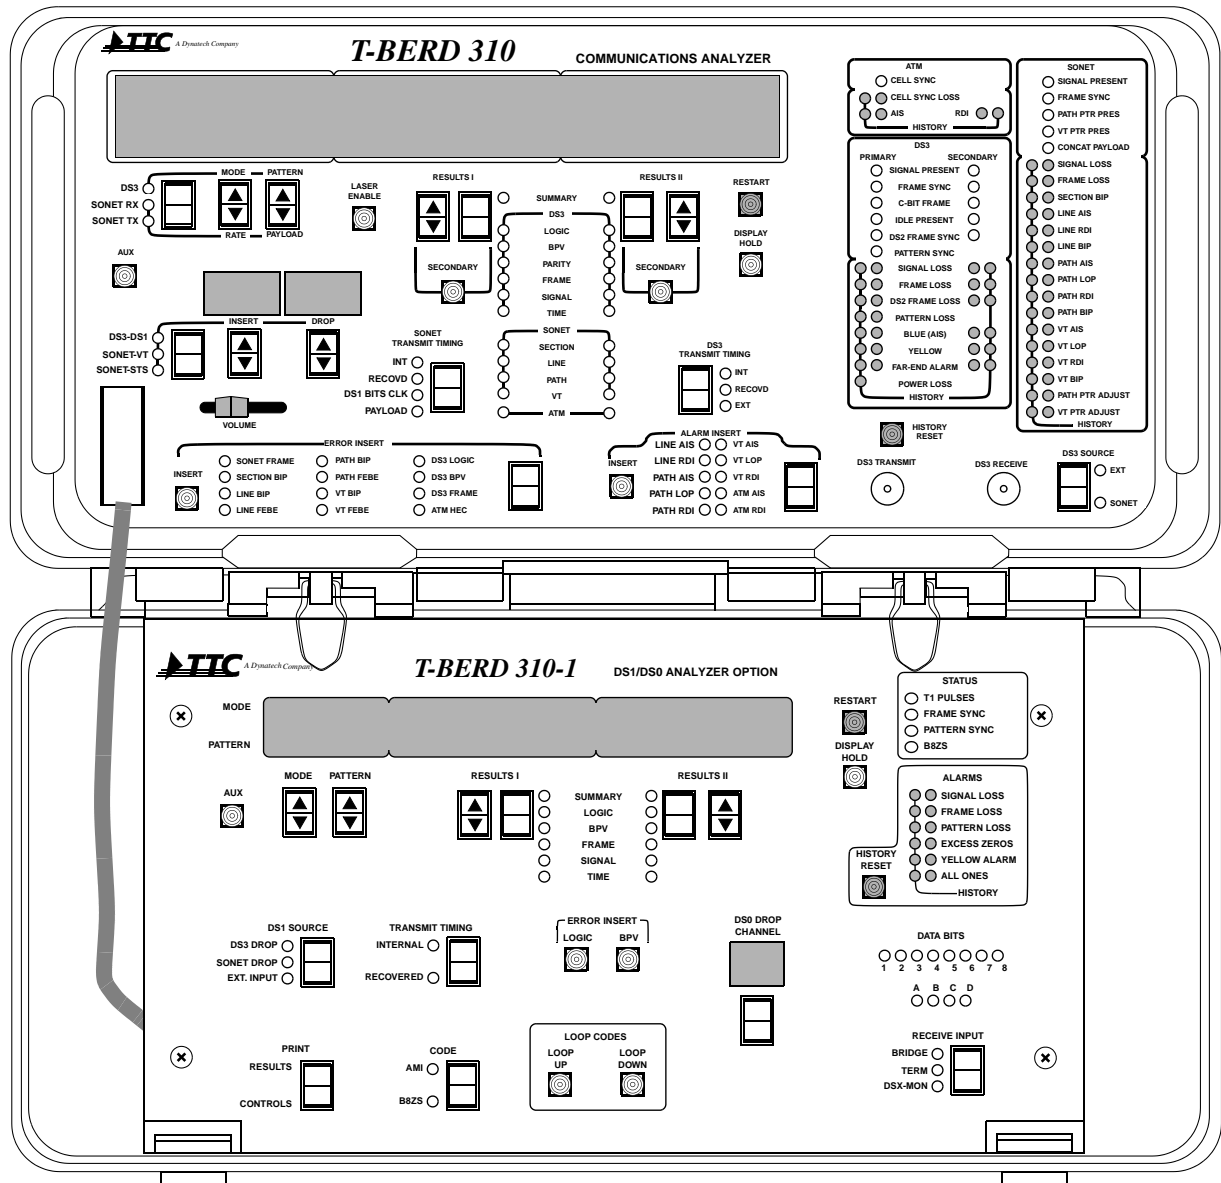

Figure 1-1. Opening the T-BERD 310
2. **Raise front of instrument (see Figure 1-1)**